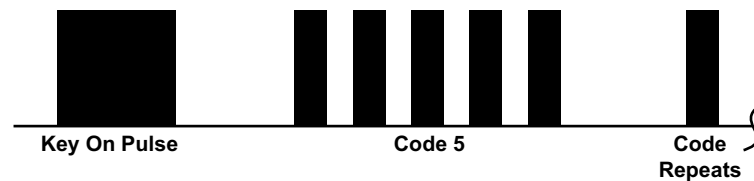

Figure 4-22 Acura ABS Code Type 02
- Type 02, see Figure 4-22 and Table 4-8 on page 25